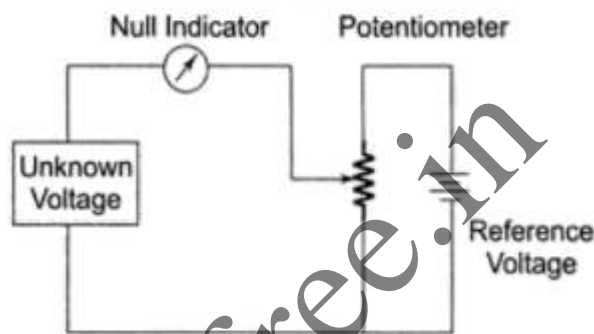

Fig. 3.6 Basic Differential Voltmeter
- Figure 3.6 shows a basic circuit of a basic differential voltmeter which is based on the potentiometric method. Hence it is also called a potentiometric voltmeter.